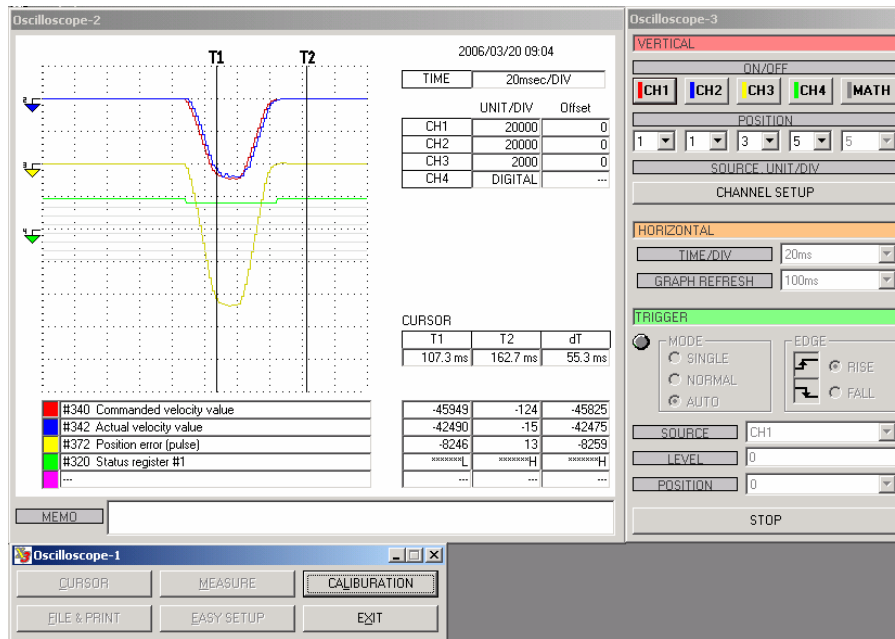

Figure 31: Expected result
22. Click “Start” to start collecting information. A proper tuned graph should look about the same as Figure 31.